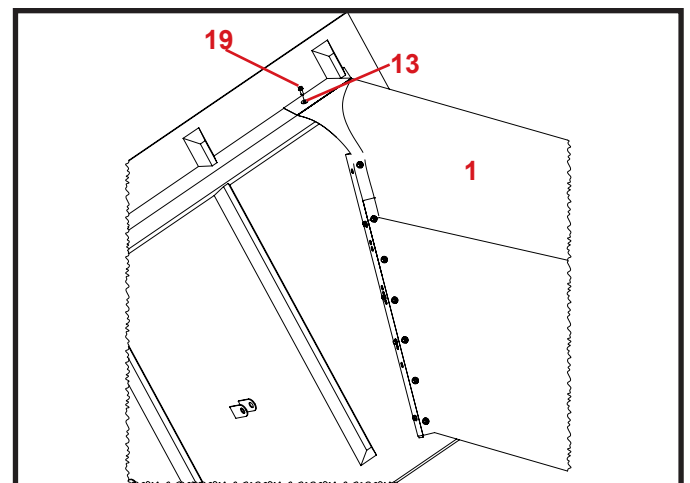

Figure 10
Pull the Tip-Up Corner (1) taut and insert the 5/16" x 1" self tapping bolt (19) and 5/16" flat washer (13) provided. Repeat for the right side. See Figure 10.